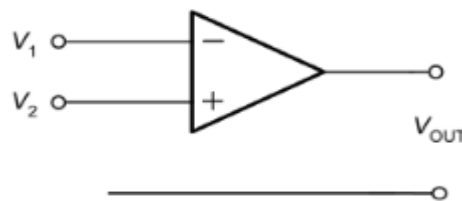

Fig 2.12. a comparator
- A comparator using an operational amplifier is shown in Fig. 2.12.